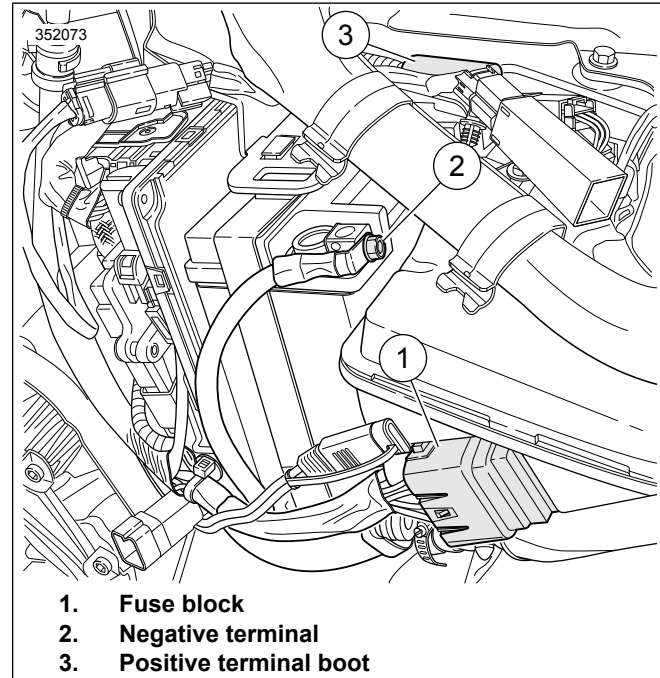
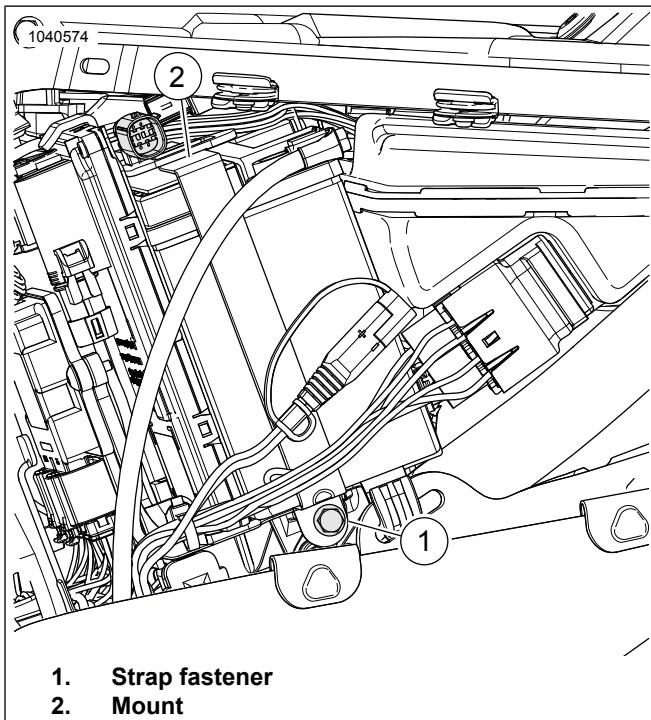

Figure 62. Battery Compartment
Figure 63. Battery Strap
4. See Figure 62. Pull fuse block (1) aside.
6. Disconnect negative battery cable at negative terminal (2).
7. Remove positive terminal boot (3) from positive battery terminal. Disconnect positive battery cable.
8. See Figure 63. Remove strap fastener (1).
9. Unhook battery strap from mount (2) on top of battery.
3. See Figure 63. Install top of battery strap to mount (2). Install strap fastener (1). Tighten.